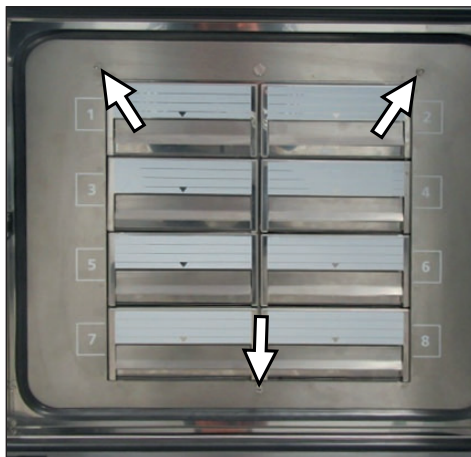

Fig. 5 Fasten IVF module
2. Fasten the IVF module with 3 screws M6 x 70 (Fig. 5).
1. Loosen the 3 screws for fastening in the interior with an Allen key (size 5, see Fig. 5).